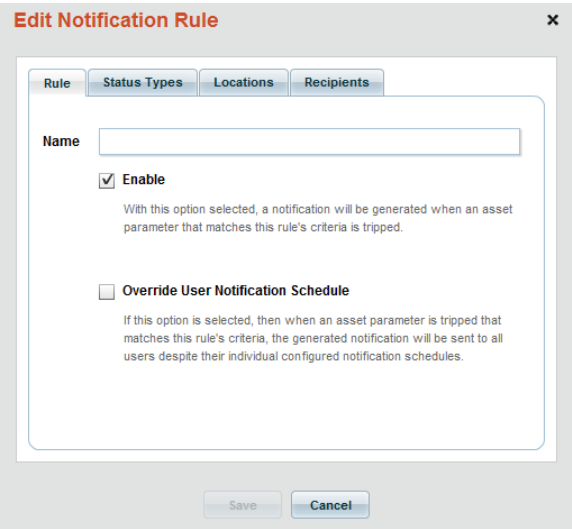

FIG. 333 Edit Notification Rule Dialog - Rule Tab
The **Rule** tab of the *Edit Notification Rule* dialog is shown in FIG. 333:
2. Click **Edit** to open the *Edit Notification Rule* dialog (see FIG. 333 on page 204).